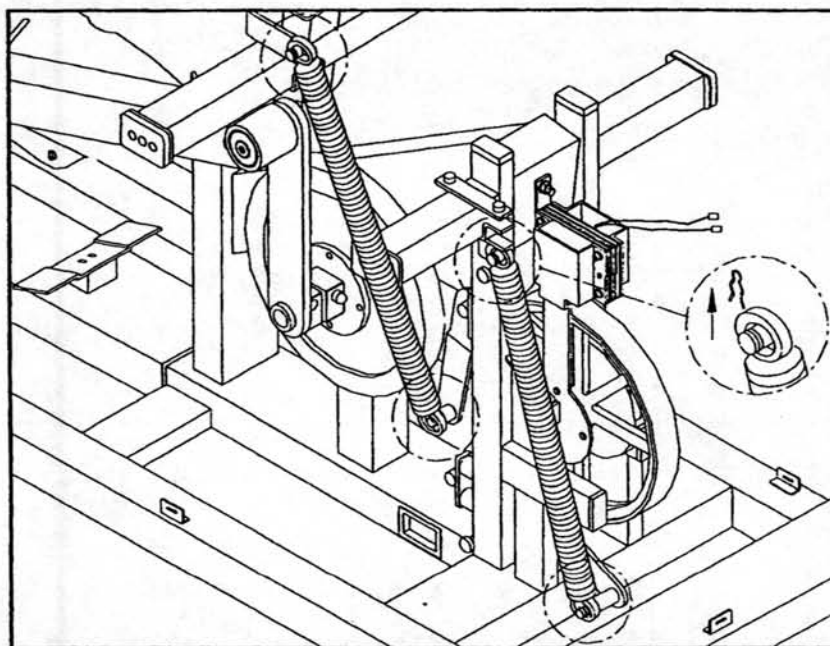

Fig.15-1
2. Pull off two PINS which fixing the springs on the IDLER WHEEL ASSEMBLY and take apart the springs from the FRAME (see Fig. 15-1).